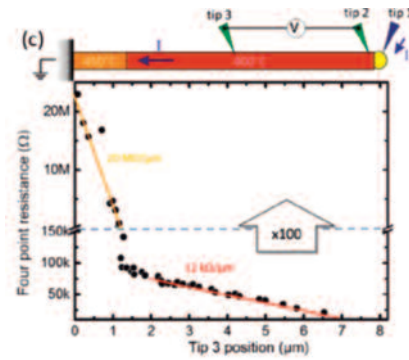

Figure 5. Resistance profile along a nanowire obtained with the TetraProbe STM coupled with e-CLIPSE Plus SEM
From the slope of the resulting current (I) versus $V^{2/3}$ curves, the resistance R_{23} of the NW segment between the two voltage probes can be calculated by a linear fit. To obtain a resistance profile along the NW (figure 5), the position of tip 3 is moved while tip 2 is always kept at the same position near the NW top. This is why having e-CLIPSE Plus SEM image of the apex location on the sample surface is really important as it gives accurate positions to make precise measurements along the GaAs nanowire. Most of the NW length shows a linear constant resistivity of $12 \text{ kW}/\mu\text{m}$ with an increased one at the NW base where the temperature during NW growth is higher. So a constant dopant concentration is assumed on these two regions seen in figure 5.